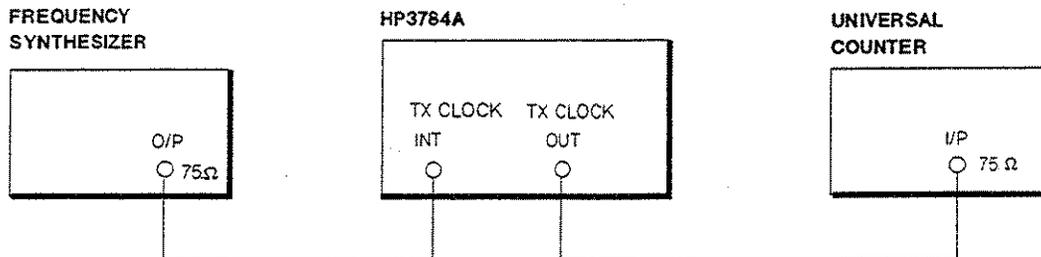

Figure 8-1 External Clock Test Set-up
1. Connect the equipment up as shown in Figure 8-1.